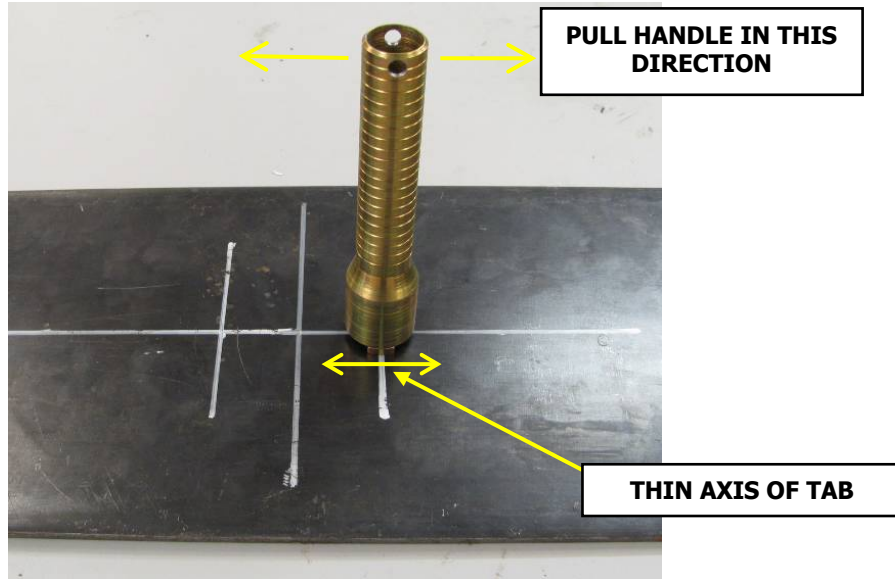

Figure 14: Removing Tab with TRT
3. In the direction of "thin" axis of the tab as shown in Figure 14, give the TRT a quick tug or tap and the tab should pop off the member surface. Depending on how well the tab is fixed, particularly on a steel surface, more force may be required. In this case, simply hit the handle of the tool with a small rubber mallet. Note that holes in the top of the tool have been supplied so that a lanyard can be added if necessary.